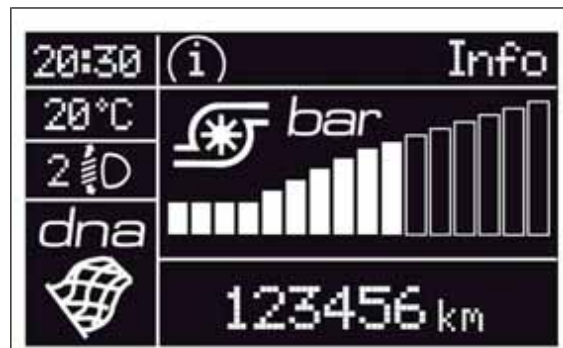

fig. 75
- Dynamic mode** fig. 75 (display image available for versions/markets, where provided)